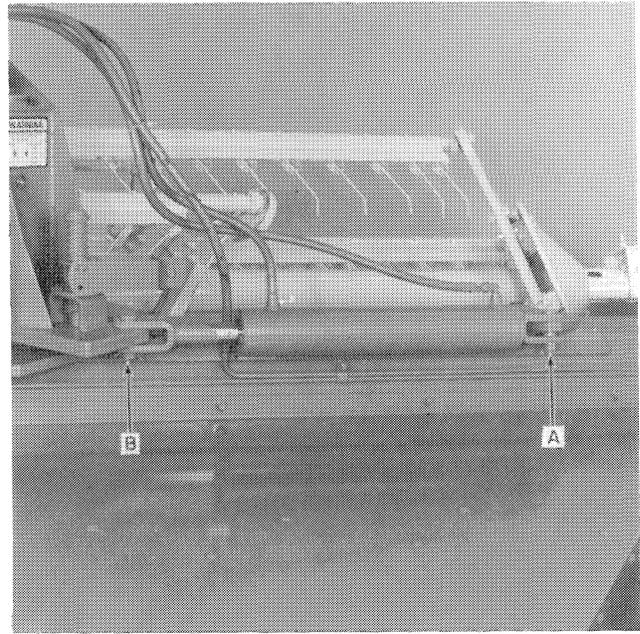

FIGURE 33
5. Remove pins, A and B, Figure 33, to remove swing cylinder.